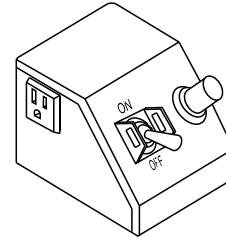

Figure 16. Power ON/OFF Switch (OFF)
- Place the power ON/OFF switch (Figure 16) in the OFF position (down).